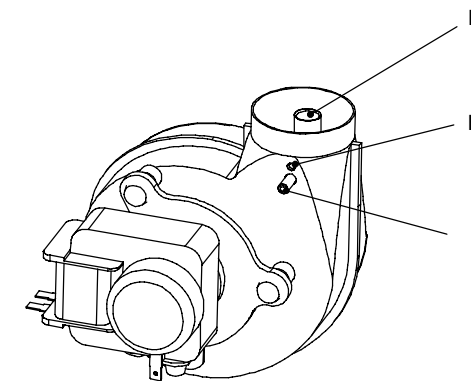
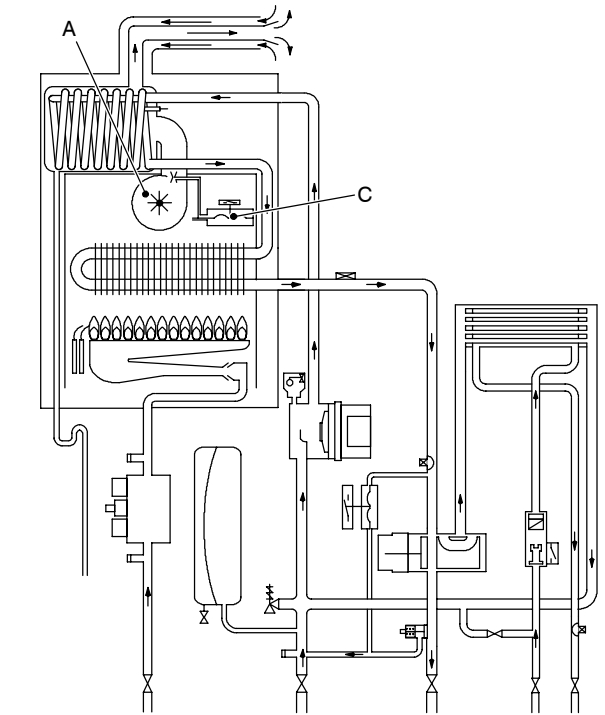
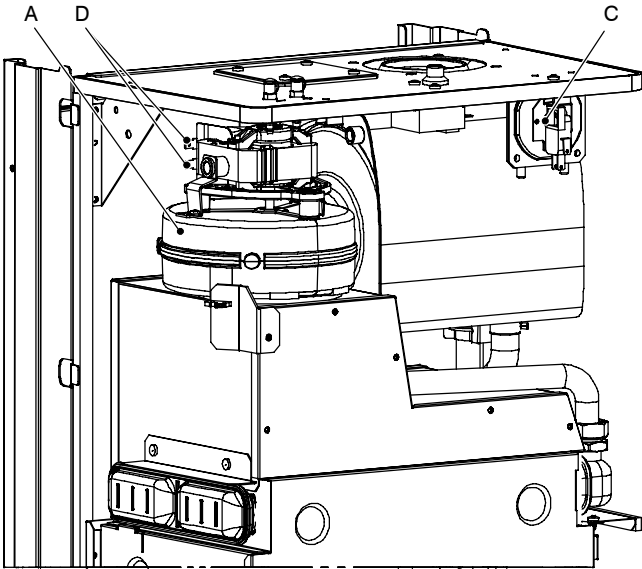

Fig. 74
Fig. 68
Fig. 69
- 2 Disconnect the connectors *D* and the earth connection *E* (Fig. 69).
The function of the Fan A (Fig. 68 and Fig. 69) is to force the products of combustion through the condensing heat exchanger to the outside air via the flue system.
Its correct functioning is controlled by means of a system incorporating a built in venturi device (B in Fig. 74) and an Air pressure switch C (Fig. 68 and Fig. 69).
- 2 Disconnect the connectors D (Fig. 69) and measure the electrical resistance of the motor that has to be about: